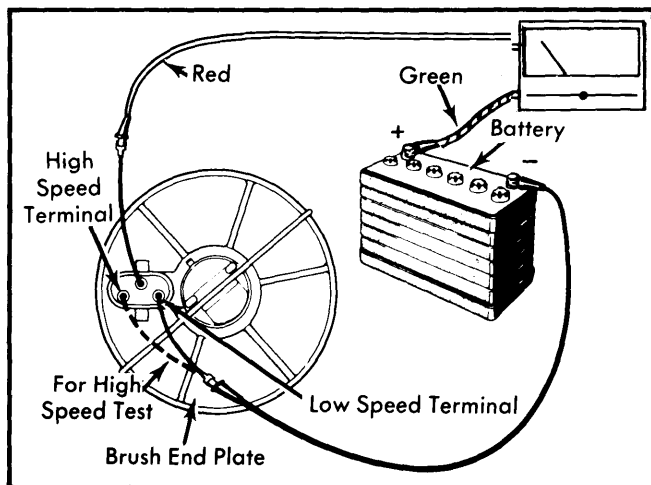

Fig. 1 Motor Current Draw Test "E" Models
**"E" Models** — Disconnect linkage from motor and use suitable connector sleeves (kit no. C4AZ-14294-B or equivalent) between motor terminals and a volt-amp meter. Connect positive (red) lead from meter to center terminal on motor end plate and green lead from meter to battery positive post. Connect a jumper wire from negative post of battery to low speed terminal on motor end plate and check current draw. Move jumper wire from low speed to high speed terminal and check current draw. Current draw should not exceed 3.5 amperes. If current draw is excessive, check output arm and windlatch mechanism for binding or damage before replacing motor. See Fig. 1.